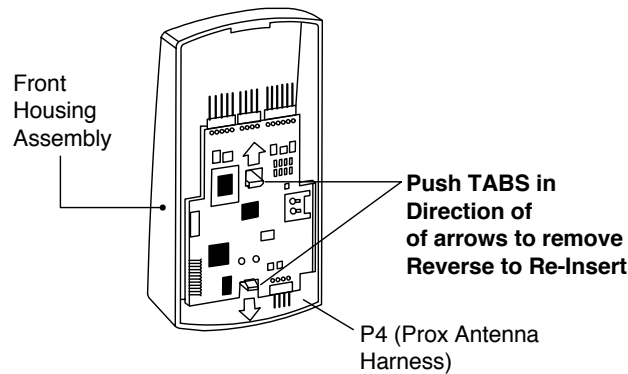

Figure 5 Removing/Inserting Printed Circuit Board
- When handling the main printed circuit board, to guard against possible static discharges, touch a grounded object **BEFORE** touching the WM800 unit. Remove the main printed circuit board by pressing the two spring tabs in the direction of the arrows as shown in Figure 5. Be careful with the wires.